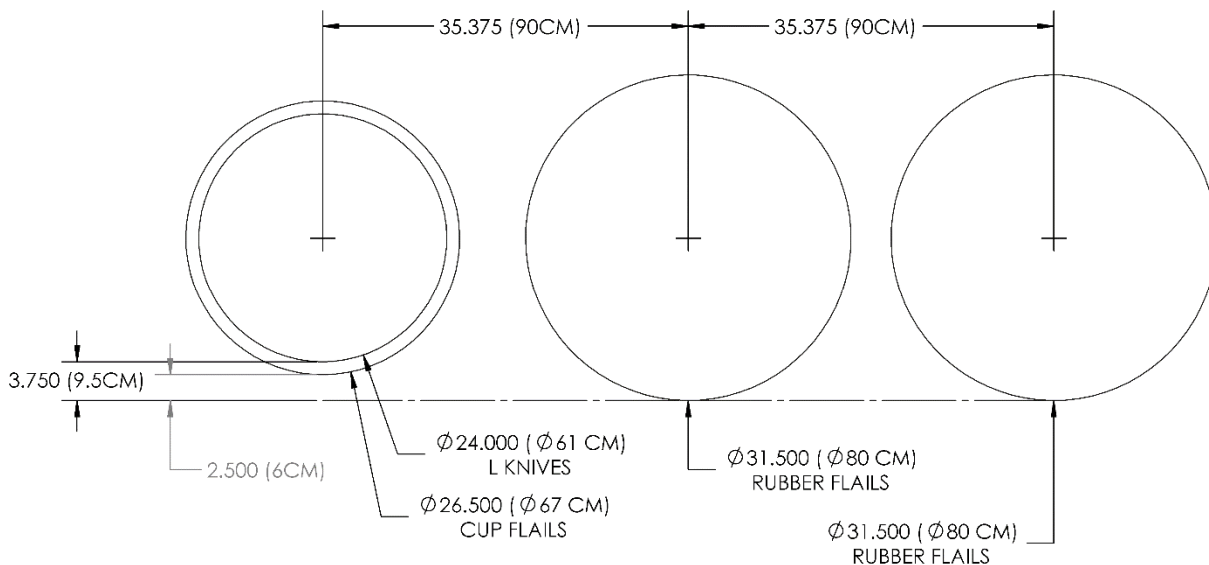
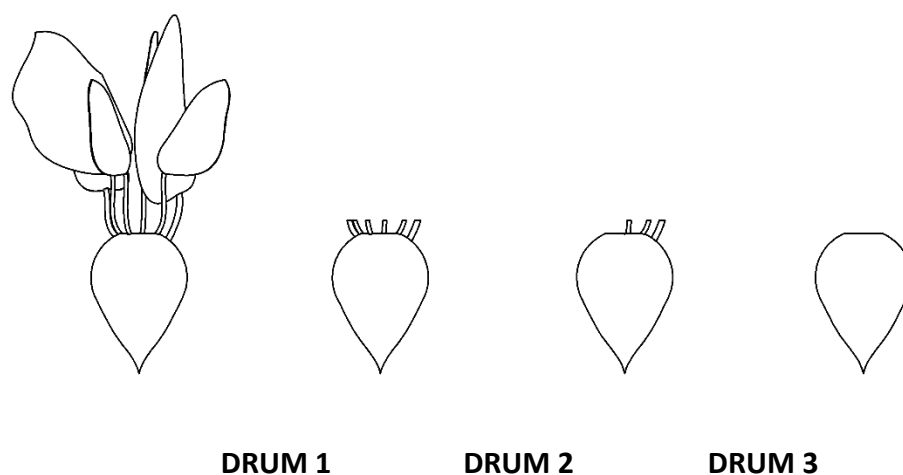

Figure 24: Defoliator Drum Flail Size
Figure 25: Defoliation Process
7.2.3 Flail Size Drum 1 height as shown in Figure 24 above is designed to run higher than the rear drums 2&3. This is based on its function which is to remove the majority of the beet leaves leaving only a few petioles or leaf stems for the 2nd and 3rd drums to remove from the crown of the beet. The rear two drums which are designed to be run level with each other, counter rotate so the flails hit from different directions to clean the front and back of the beet crown as illustrated in Figure 25 below. This is where the 50 series and 00 series differ significantly and described in the following sections.
7.2.4 50 Series The design feature that enables the 50 series defoliator to do more work faster is the shrouded front steel drum 1. The shrouded drum 1 is able to remove the majority of foliage leaving only a couple of inches of petioles and keeping the rear drums clear of excess leaves allowing them to perform their jobs more effectively. Drum 2 rotates with the direction of travel its job is to clean the front side of the beet as shown in Figure 25. The 2nd drum has 10 sets of flails compared to the 6 of the rear drum because of the rotational direction makes for a less aggressive cleaning action. Drum #3 rotates against the direction of travel used 6 sets of flails and its flails contact the back half of the beet removing the final petioles from the beet crown. By looking to see where the petioles remain will let you know if the 2nd, 3rd or both drums need to be raised or lowered. Lower or raise the hitch to adjust for level and lower rear struts to adjust drum 2 and drum 3 flail height. Both hitch and rear strut adjustments will affect the other drum so double check flail heights for both drums after making any adjustments.
On all 50 series Amity defoliators the 3rd drum can be adjusted upwards. With the defoliator run level as intended shown in Figure 24, the front steel drum 1 is 2.5 inches (6cm) (higher than rubber drums 2 and 3; with drum 1 removing the majority of foliage and drums 2 and 3 cleaning the petioles from the crown of the beet. The purpose of drum 3 being adjustable is for beet stands with poor emergence where beet height varies drastically. In this situation when running level the front steel flails would be slicing off the tops of higher beets. Raising the 3rd drum allows the operation to lower the rear of the defoliator and raise the front with the end result of having drum 1 higher. This adjustment may also be used as the flails become worn and the rubber flail's 2.5 inches (6cm) difference in operating height becomes closer to the front steel drum.